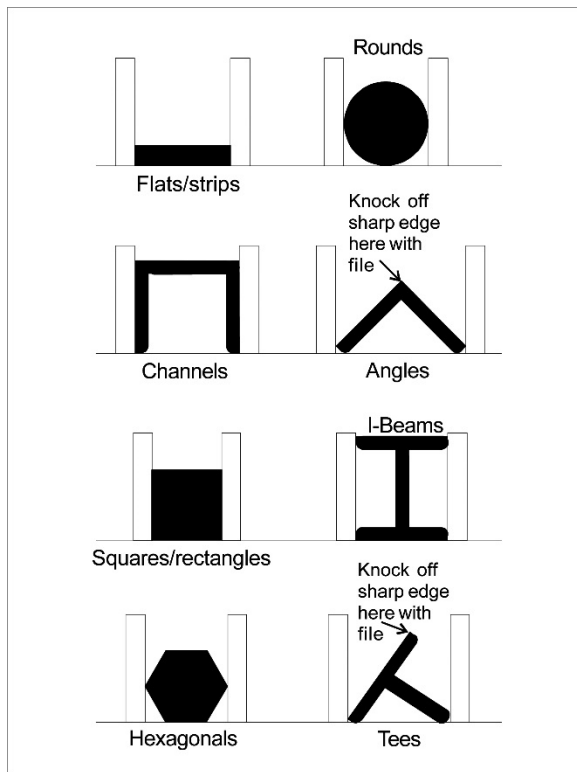

Figure 9-3
3. Place stock between vise jaws, set stock for desired width of cut and tighten vise. (See Figure 9-3 for recommended placement in vise of varied workpiece shapes.)